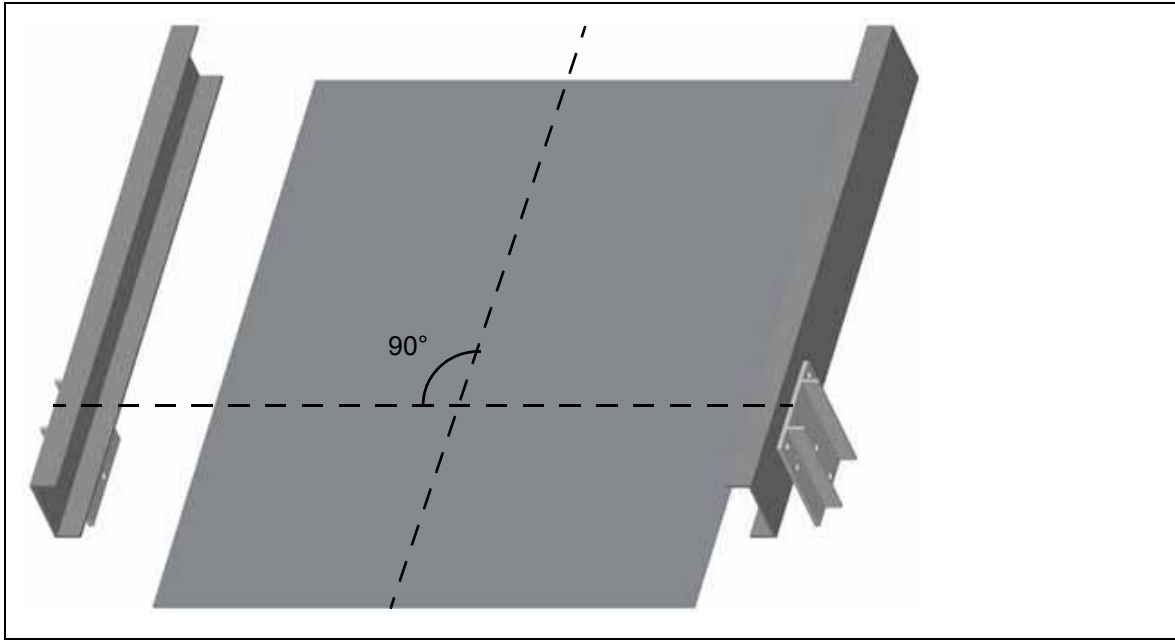
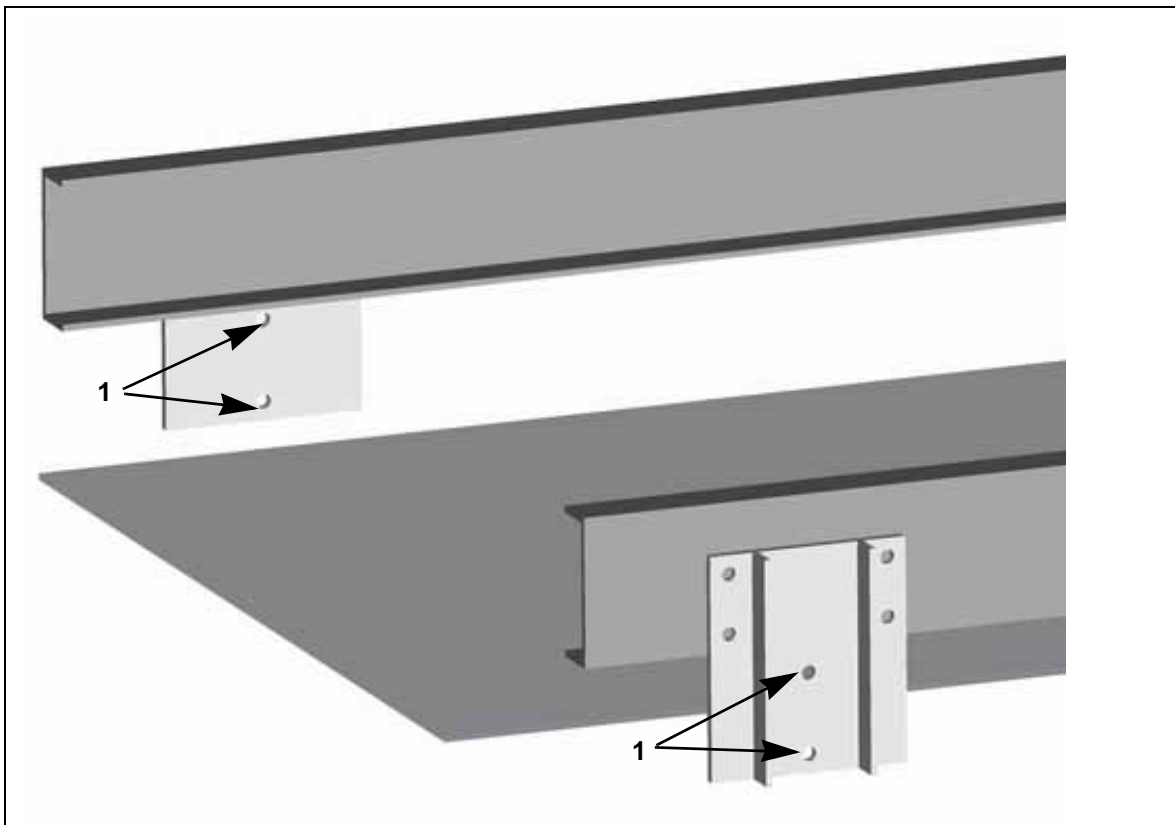

Fig. 3: Mark the holes in the installation frame
Fig. 4: Holes in the installation frame
4. Mark the holes for the installation frame on the opposite side (Fig. 3). Ensure that the lower holes (1, Fig. 4) are accessible for fixing screws from both sides.